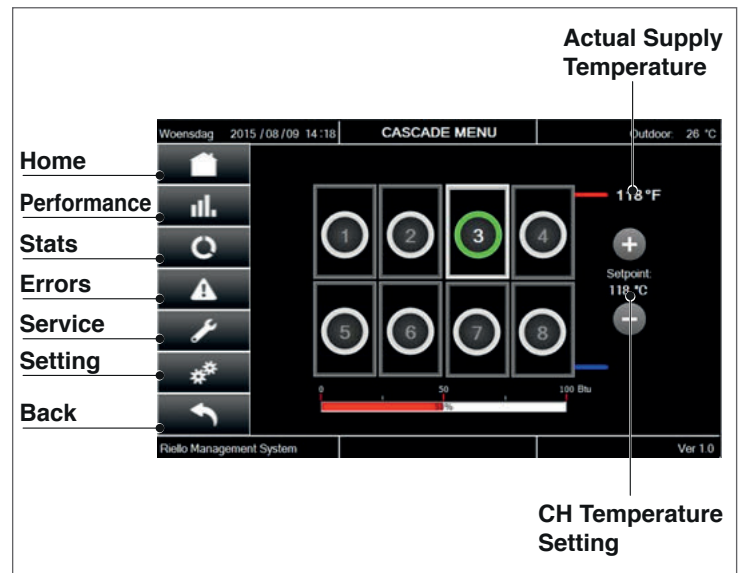

Fig. 46 Cascade Screen
- The boiler will fire only when there is a call for heat and the heating temperature setting is higher than the actual supply temperature. Hold buttons "+" or "-" on the Cascade screen (Fig. 46) to select the desired heating temperature. If the external temperature sensor is connected (see Section "2.13.3 Outdoor Temperature Sensor" pag. 15), check that the calculated temperature is higher than the actual boiler temperature and that the outdoor temperature is lower than "warm weather shut down" temperature.